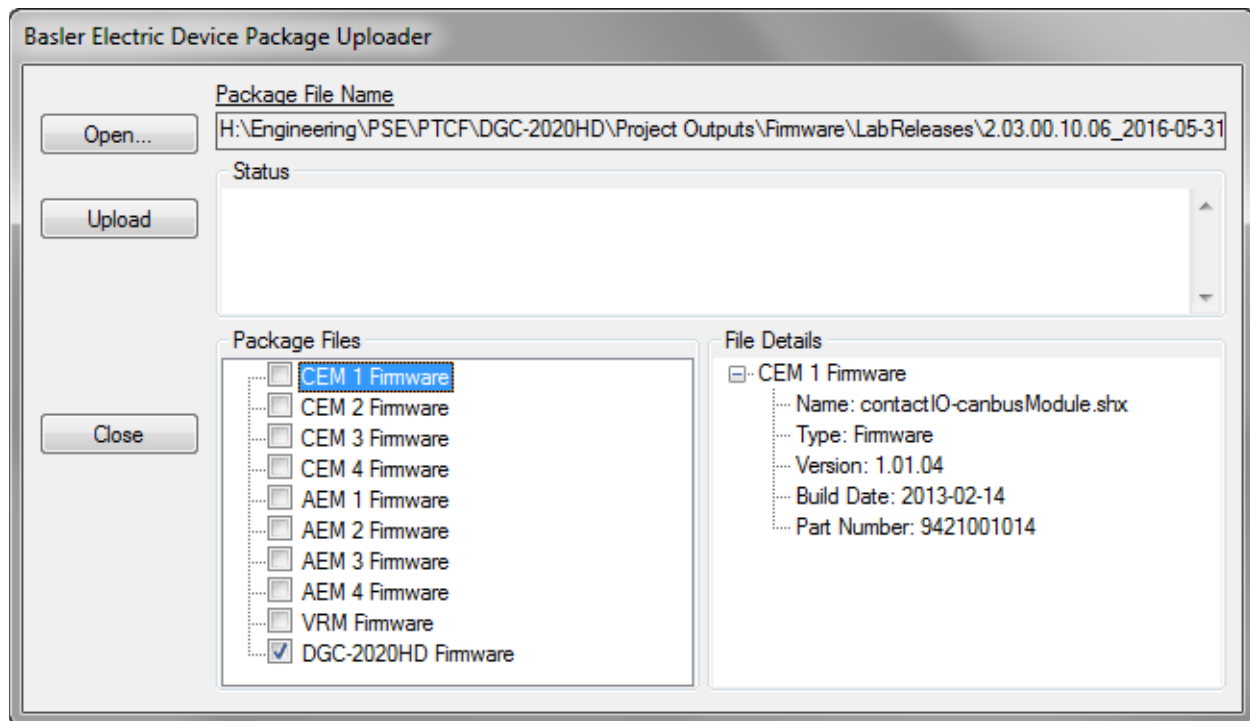

Figure 3. Basler Electric Device Package Uploader
7. When the Basler Electric Device Package Uploader screen (Figure 3) appears, click on the Open button to browse for the device package you have received from Basler Electric. The Package Files along with File Details are listed. Place a check in the boxes next to the individual files you want to upload.